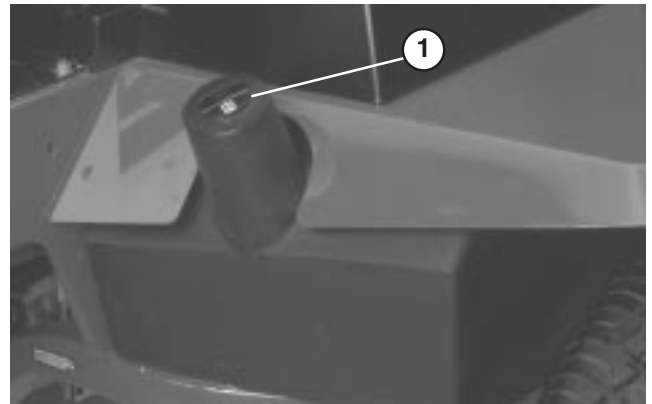

Figure 60
2. Remove drain plug from bottom of reservoir (Fig. 60) and let hydraulic fluid flow into drain pan. Reinstall and tighten plug when hydraulic fluid stops draining.